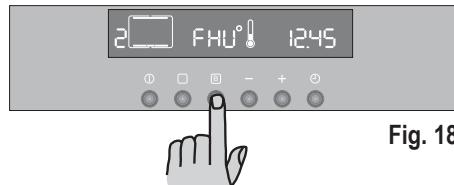

Fig. 18
- 1) Switch the oven on by pressing button **①**.
- 4) Press button **B**. The temperature display will show “FHU” (Fig. 18).